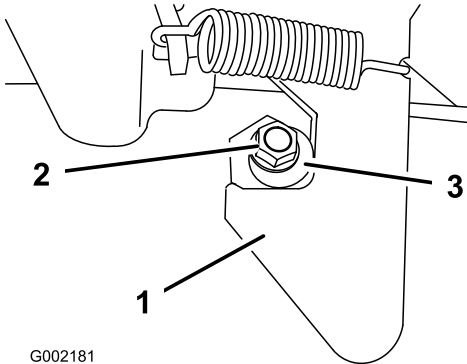

Figure 57
1. Loosen the locknut on the end of the latch post (Figure 57).
2. Rotate the latch post clockwise until it is snug against the hook portion of the latch (Figure 57).